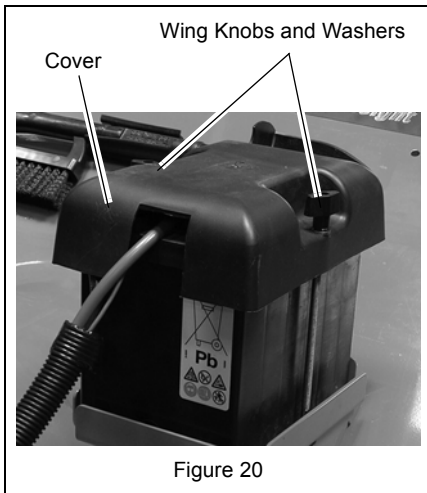

Figure 20
1. Remove the two wing knobs, flat washers and cover from the battery. (Figure 20).